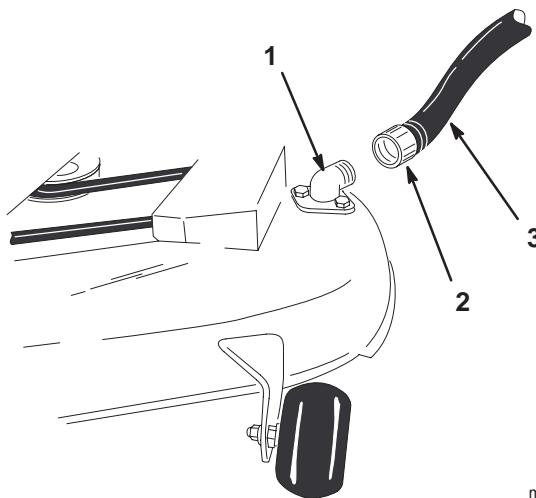

Figure 48
- Attach the hose coupling to the end of the mower washout fitting, and turn the water on high (Fig. 48).